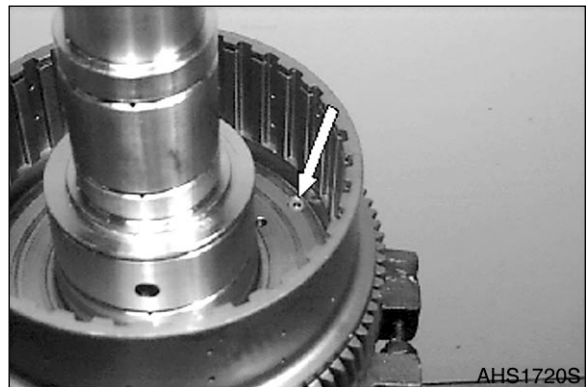
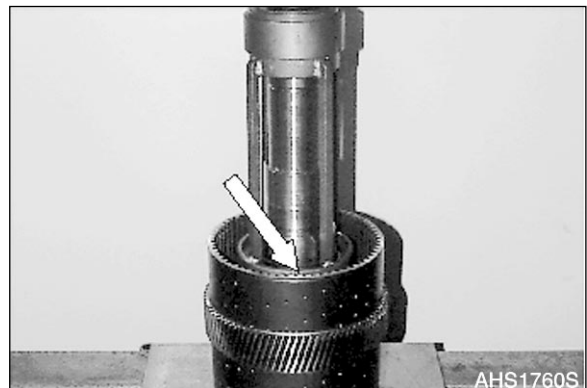

Figure 212
Figure 217
6. Insert purge valve (Figure 212) flush-mounted, with the chamfer facing downward.
- Lift plate carrier out of the clamping ring (S). Preload compression spring using Special device (S) and squeeze snap ring into the annular groove of the plate carrier (Arrow), see Figure 217.
- Install purge valve, spool and compression spring on the opposite side (KR clutch) accordingly as Figure 212 - Figure 217.
- Now, lift plate carrier, with the KR-side facing downward into the clamping ring (S) and secure it.